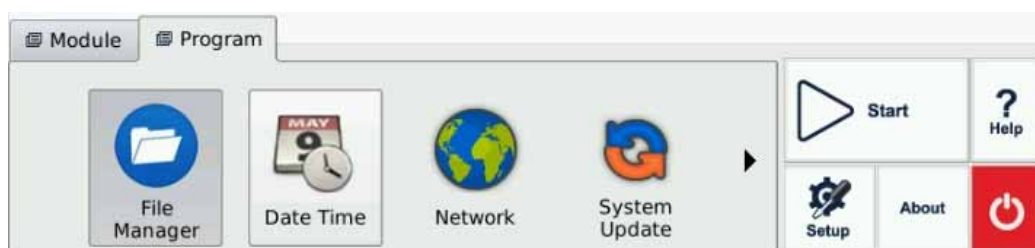

Fig 13.1 File explorer
A. In PROLITE-53B main interface, Tap **{Program}** label and Tap **[File Explorer]** icon as shown in Fig 13.1: